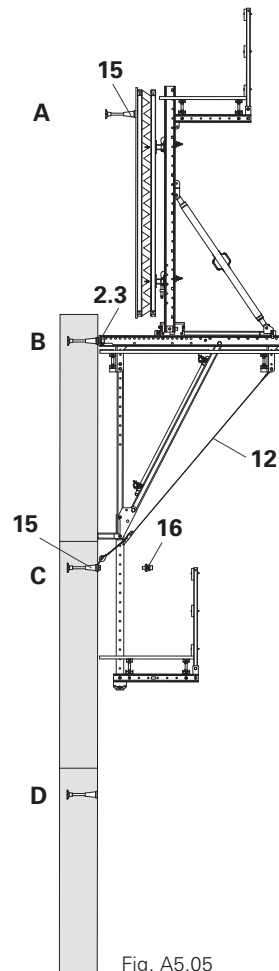

Fig. A5.05
- Remove Mounting Ring* (16) from the Following Anchor (15), see A2.8.
- If necessary, attach Tension Belt (12) to the Following Anchor, see A2.5.
- Mount the Leading Anchor (15) on the formwork, see A2.6.
- (Fig. A5.05)